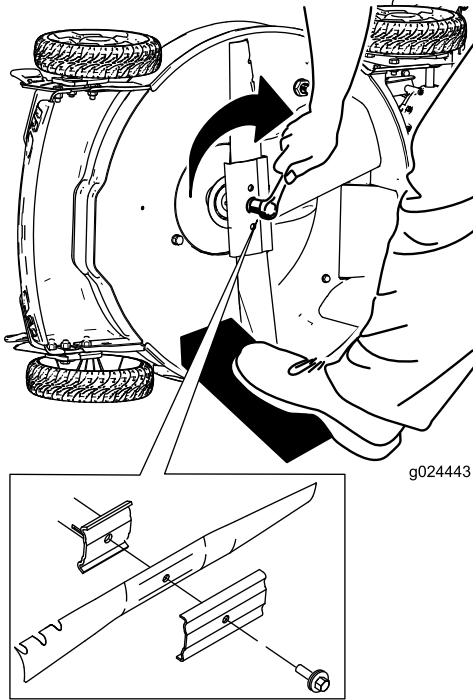

Figure 9
1. Install the new blade and all mounting hardware (Figure 9).